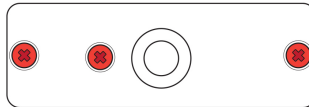
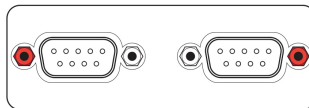

Figure 7: Attachment points at the back side of the casing
Figure 8: Attachment points of the D-Sub connectors at the front side of the casing
8. Screw the front and back side (Figure 7 and Figure 8).